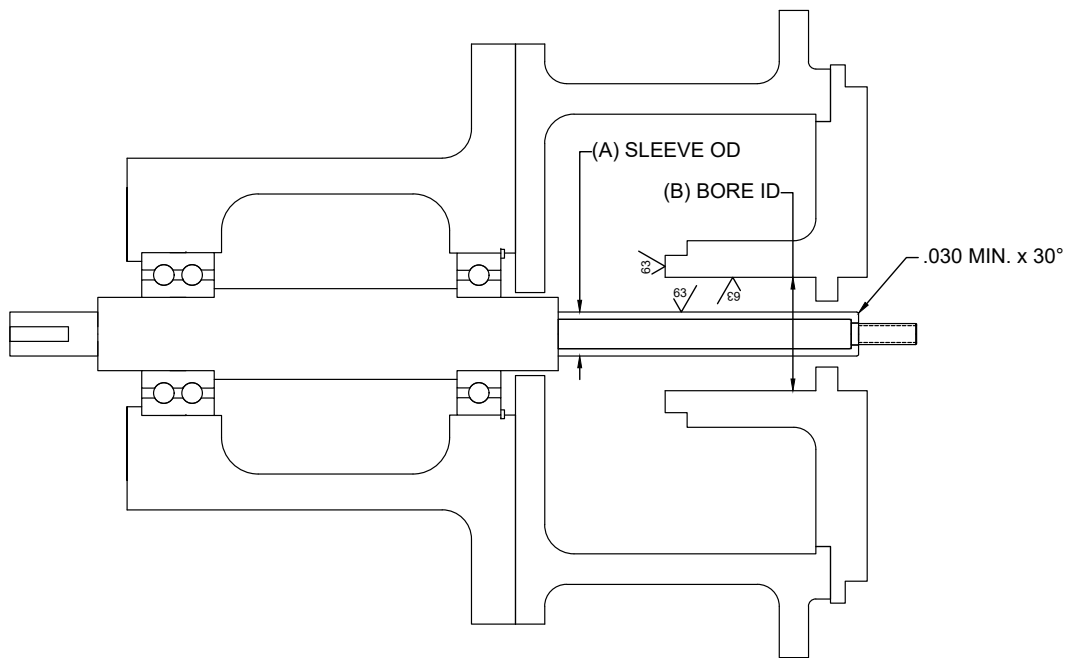

Figure 1: Surface finish and chamfer locations. Fully assembled pump without seal.
5. Sealing surfaces and the shaft or shaft sleeve must have at least a 63 Ra- $\mu$ m surface finish as seen in Figure 1.
6. For ease of installation, the leading edge of the shaft or sleeve should be chamfered as shown in Figure 1 and all parts should be deburred.